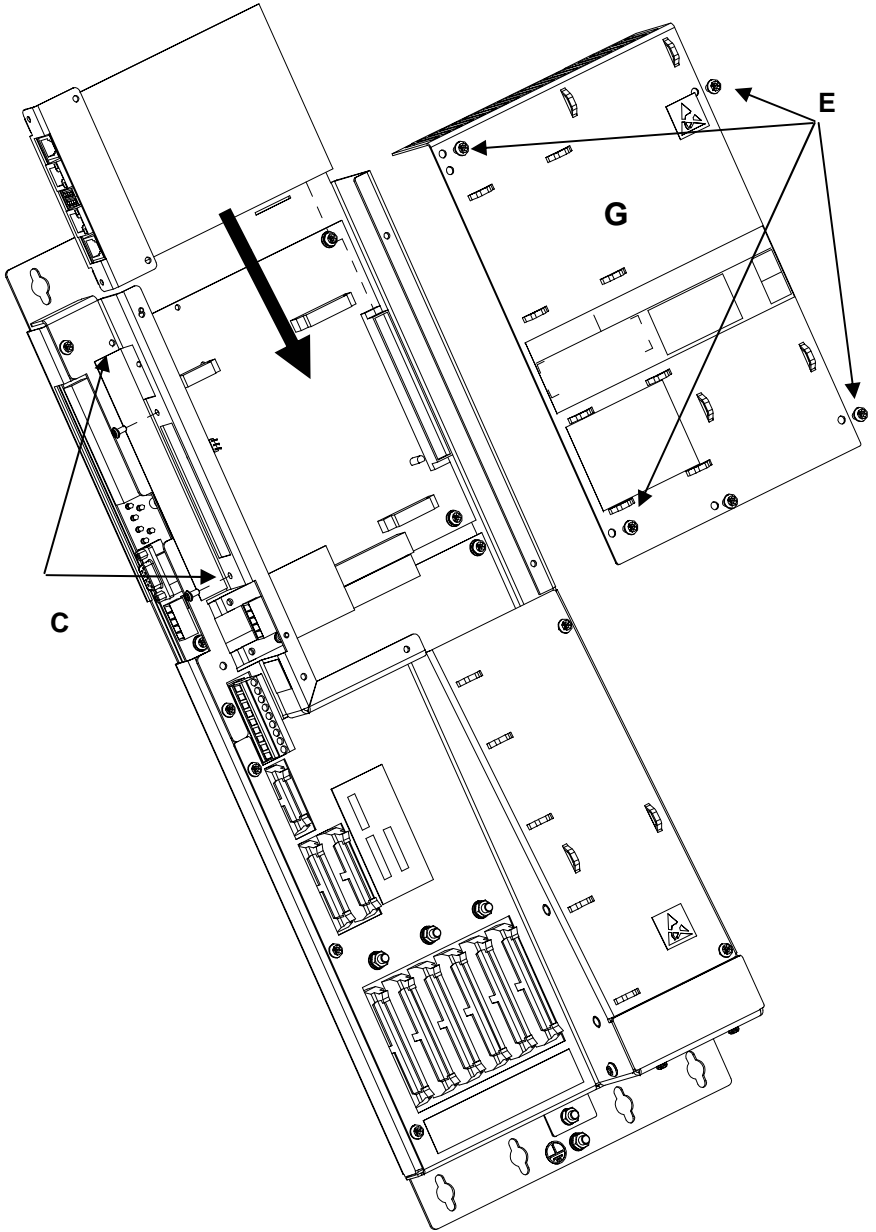

Figure 3-4 DELTA system – fitting the Ethernet Interface Module
2. Referring to Figure 3-4 DELTA system – fitting the Ethernet Interface Module, remove the five M4 screws (E), and the M5 nut and washers (D) (next to the M5 earth stud), securing the steel cover plate (G) covering the control board.
5. Locate the 96-way connector on the Ethernet Interface Module into the socket (A) at the back of the control board, as shown in Figure 3-4 DELTA system – fitting the Ethernet Interface Module. Secure the front panel to the chassis using the two M4 screws removed at step 3.
6. Attach the label (F) if supplied.